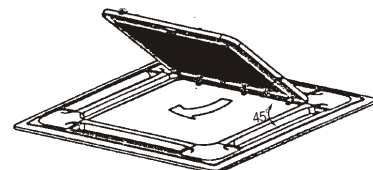

Fig. 22
- b. Draw the grid up to an angle of about 30°, and remove it. (Refer to Fig.22)